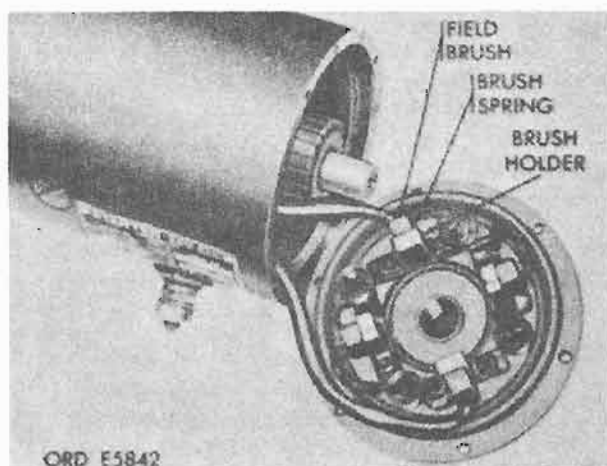

Figure 7-23. Installing and side-loading field brushes.
c. Insert field brushes in field-brush holders and side-load in same manner as ground brushes (fig. 7-23).